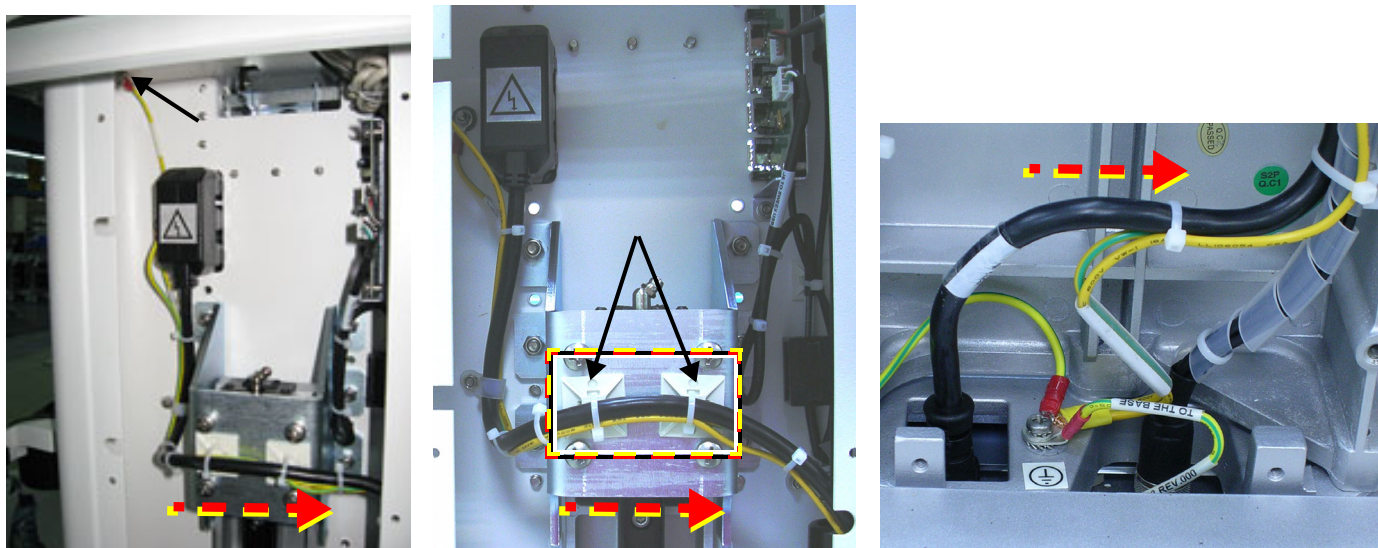

Figure 8-88 Routing of Peripheral AC Outlet Cable from Left to Right
Correct routing of the Peripheral AC Outlet cable is shown in Figure 8-88, below.
NOTE: Before starting the routing procedure adhere two plastic cable holders to the metal linear guide bracket as shown in Figure 8-88 (middle picture).
- 2.) With the AC power socket plugged into the cart (Figure 8-88, left picture), connect the ground cable to the body of the cart.
- 3.) Route the Peripheral AC Outlet cable as shown in the middle picture of Figure 8-88.
- 5.) Route the cable and the ground cable over the plastic cable holders (Figure 8-88 middle picture) and secure the cables with the tie-wraps.